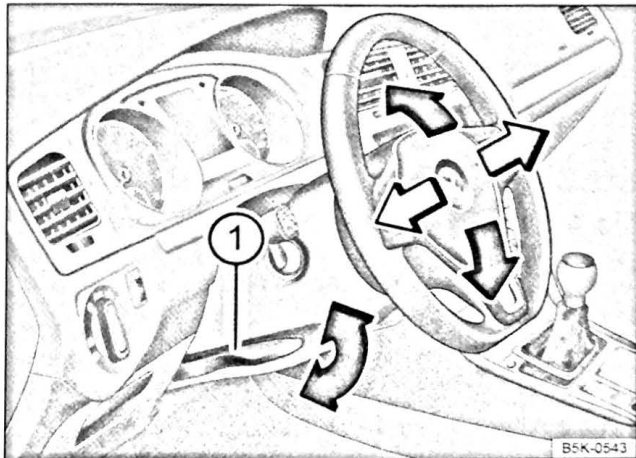

Fig. 50 Adjusting the steering wheel position mechanically
- Push down the lever  $\Rightarrow$  Fig. 50 ①.